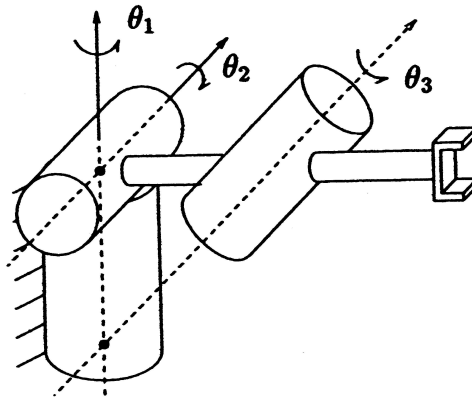

Figure 1: 3-DOF manipulator for Problem 2.
2. Consider the manipulator in Figure 1.